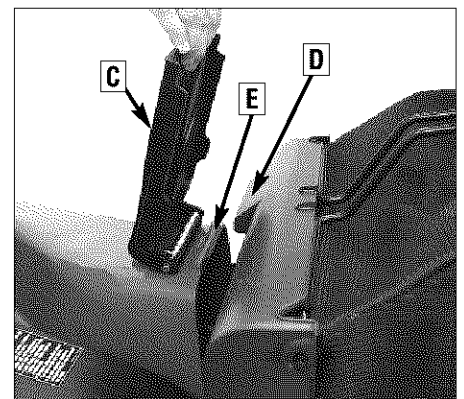

Figure 4-2: Attaching Grass Catcher.
2. Grasp the Grass Catcher by the wire-formed handle. With the other hand, hold open the discharge outlet guard (C, Figure 4-2).
3. Lower (at an angle) the bag door (D, Figure 4-2) onto the tab (E) on the discharge outlet. Make sure the bag door seats squarely onto the tab and covers the tab completely.
2. With the engine and blade stopped, hold open the discharge outlet guard (C, Figure 4-2). With the other hand, grasp the wire-formed handle and guide the bag up and off the discharge outlet.